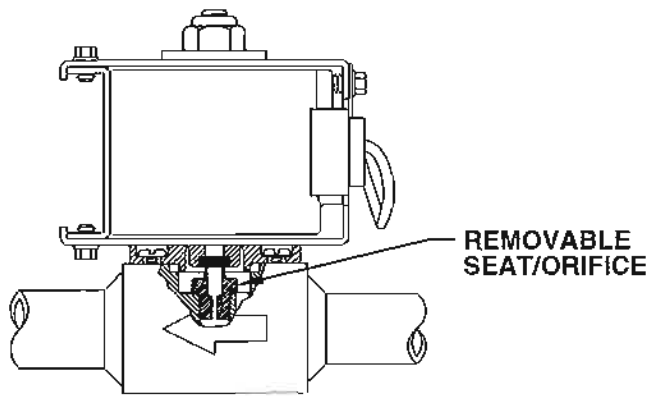

Figure 8.
The APM is equipped with four solenoid valves. These are as follows: the liquid drainer solenoid valve (A); the liquid make-up solenoid valve (B); the purge gas solenoid valve (C); and the water solenoid valve (D). With the exception of the water solenoid valve, each is directly welded in-line and has a stainless steel removable seat/orifice (see Figure 8). The removable seat/orifice facilitates easy access to orifice for inspection or replacement. If necessary, the water solenoid valve (D), whose brass body has threaded ends, can easily be replaced or parts thereof changed.